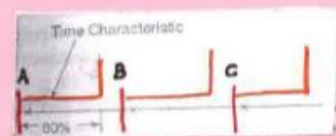

Fig 2.2. Instantaneous overcurrent Protection
* As seen in the figure 2.2, the operating-time is kept the same for all the relays.
* Hence relays will be properly protecting only about 80% part of the feeders. This scheme cannot protect the entire part of the feeders. (Fig 2.2).